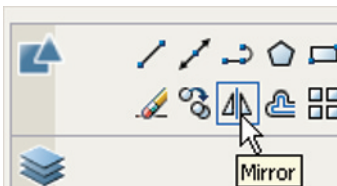

Fig. 5.7 The **Mirror** tool icon from the **2D Draw** control panel
2. Call the **Mirror** tool – *left-click* on its tool icon in the **2D Draw** control panel (Fig. 5.7), or *pick* the **Mirror** tool icon from the **Modify** toolbar, or *pick* **Mirror** from the **Modify** drop-down menu, or *enter* **mi** or **mirror** at the command line. The command line shows: